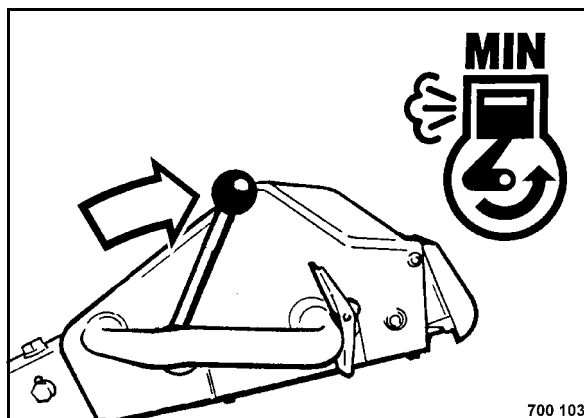

Fig. 35
- Set the throttle lever (Fig. 35) to position "MIN".